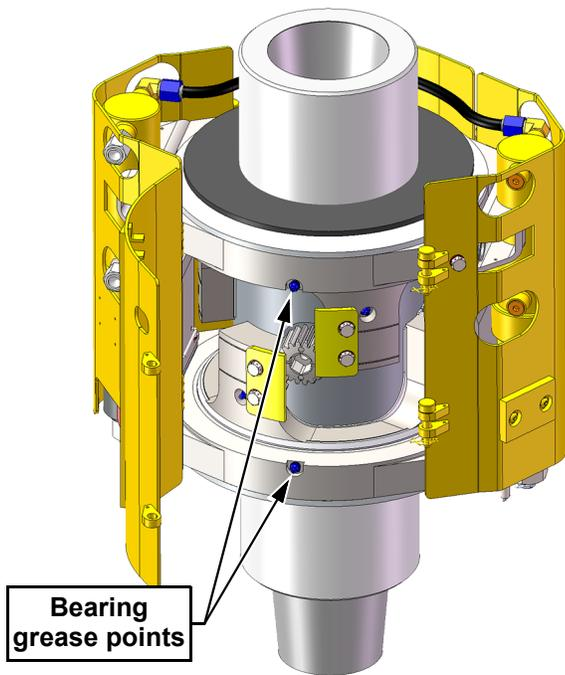
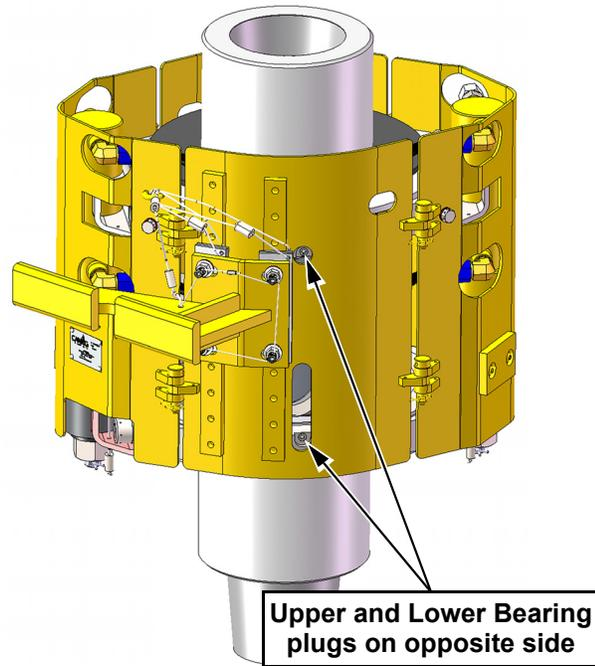

Figure 1: Upper and lower bearing grease zerks side
Figure 2: Upper and lower bearing plugs side
NOTICE There are two grease zerks on one side of the LWCV actuator. The opposite side of the LWCV actuator will have two plugs. These plugs are located on the side closest to the BUW with the LWCV installed. See Figure 1 and Figure 2 on page 2.
2. Pump 5 – 10 shots of grease into grease zerks on both the upper and lower bearings. See Figure 1 on page 2. Use multi-purpose lithium complex grease, complying with N.L.G.I. classification No. 1 or No. 2. Rotate the bearings at least 5 – 10 revolutions to help distribute the grease throughout the bearing.